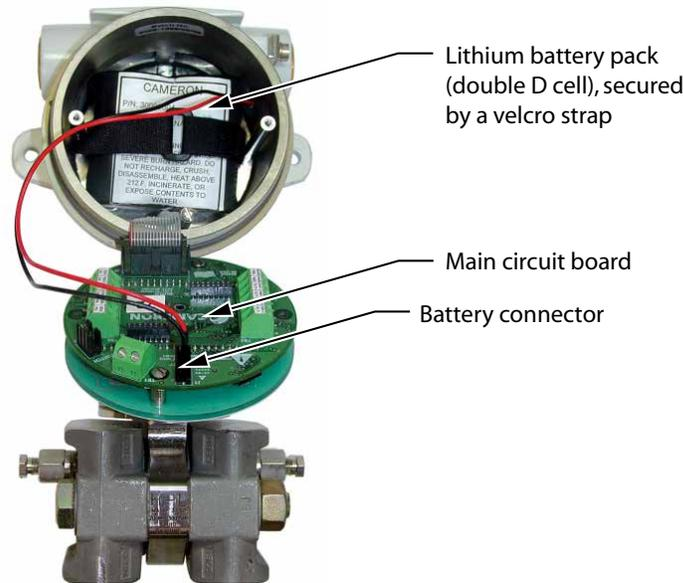

Figure 1.5 - Scanner 2000 flow computer, internal view
- The internal lithium battery pack supplied with each Scanner 2000 (shown in Figure 1.5)